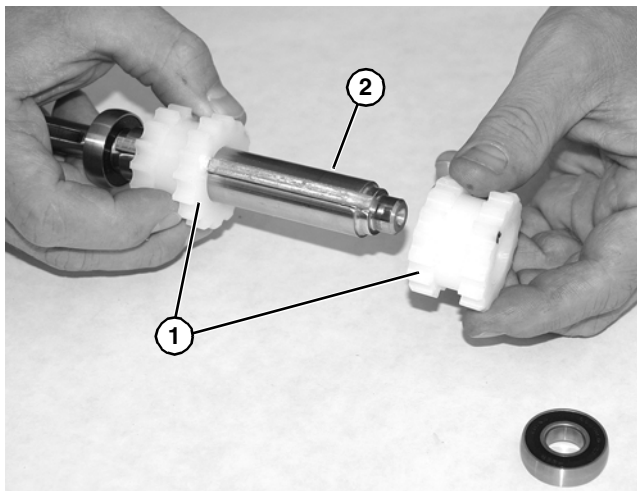

Figure 51
2. Slide free moving sprocket(s) (**Figure 51, item 1**) off the end of pulley (**Figure 51, item 2**).